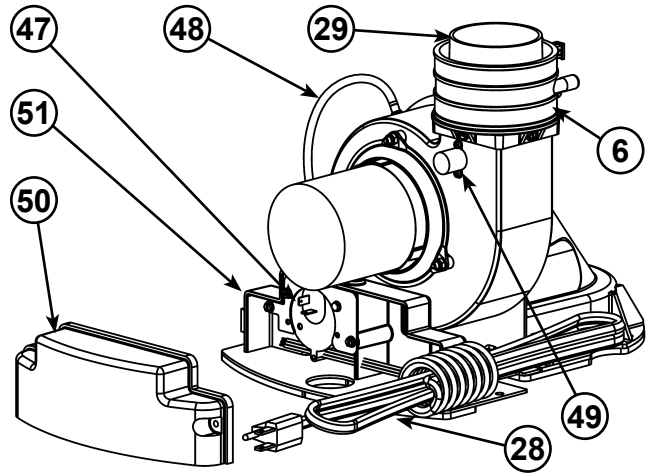

Figure 60
- 6 Gear Clamp (see Figure 6) (see also **Figure 60**)
- 29 *Rubber Coupling (see Figure 6) (see also **Figure 60**)
- 47 Air Switch (inside box) (see Figure 6) (see also **Figure 60**)
- 48 Air Tubing (see Figure 6) (see also **Figure 60**)
- 49 Blower High Limit Switch (see Figure 6) (see also **Figure 60**)
- 50 Junction Box Cover (see Figure 6) (see also **Figure 60**)